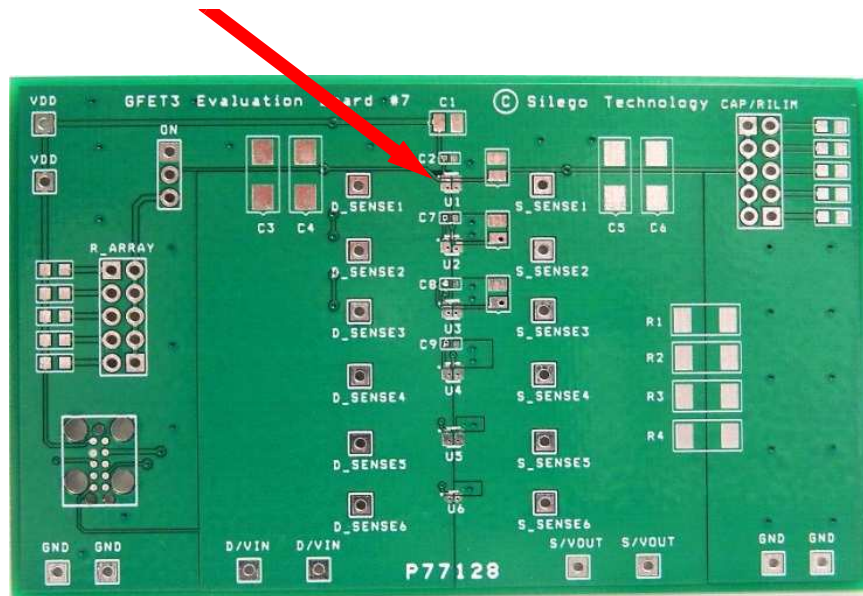

Figure 1. SLG59M307V Evaluation Board.
2. Since the D and S pins dissipate most of the heat generated during high-load current operation, it is highly recommended to make power traces as short, direct, and wide as possible. A good practice is to make power traces with an absolute minimum widths of 15 mils (0.381 mm) per Ampere. A representative layout, shown in Figure 1, illustrates proper techniques for heat to transfer as efficiently as possible out of the device;
A GreenFET Evaluation Board for SLG59M307V is designed according to the statements above and is illustrated on Figure 1. Please note that evaluation board has D_Sense and S_Sense pads. They cannot carry high currents and dedicated only for RDS_{ON} evaluation.